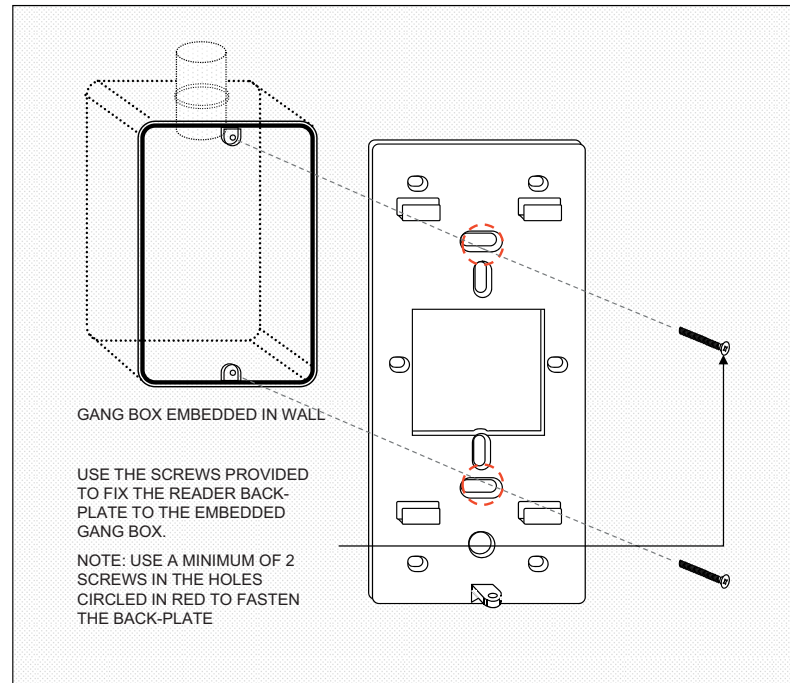

Fig. 5. Mounting reader back-plate on concrete wall using gang box and conduit
2. Hold the back-plate in position over the gang box. Align the mounting screws with their holes and fasten the back-plate securely on the gang box using the screws. See Fig.5.